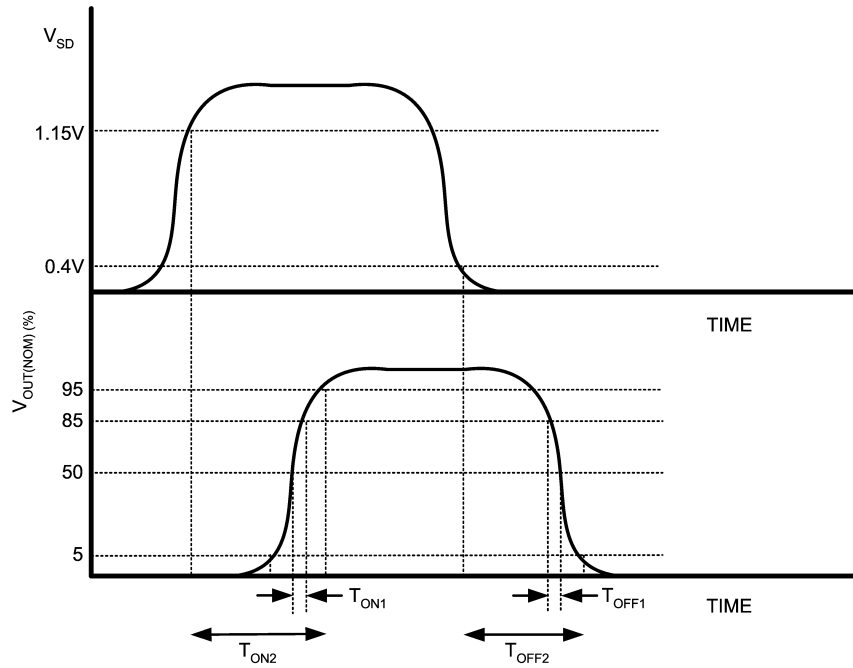

Figure 2.  $T_{on}/T_{off}$  Timing Diagram
(1) All limits are guaranteed. All electrical characteristics having room-temperature limits are tested during production at  $T_J = 25^\circ\text{C}$  or correlated using Statistical Quality Control methods. Operation over the temperature specification is guaranteed by correlating the electrical characteristics to process and temperature variations and applying statistical process control.
(2) The device maintains the regulated output voltage without the load.
(3) This electrical specification is guaranteed by design.
(4) Short circuit current is measured on the input supply line at the point when the short circuit condition reduces the output voltage to 95% of its nominal value.
(5) Time for  $V_{OUT}$  to rise from 50 to 85% of  $V_{OUT(nom)}$ . (Figure 2)
(6) Time from  $V_{SD} = 1.15V$  to  $V_{OUT} = 95\%(V_{OUT(nom)})$ . (Figure 2)
(7) Time for  $V_{OUT}$  to fall from 85 to 50% of  $V_{OUT(nom)}$ . (Figure 2)
(8) Time from  $V_{SD} = 0.4V$  to  $V_{OUT} = 5\%(V_{OUT(nom)})$ . (Figure 2)